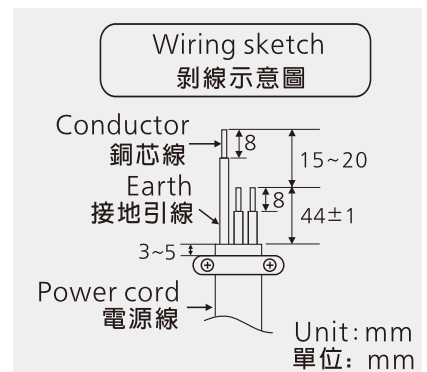

Figure 1
**!** For the stripping length, please prepare according to the wiring sketch (refer to figure 1). If the stripping length is too long, it may cause short circuit.